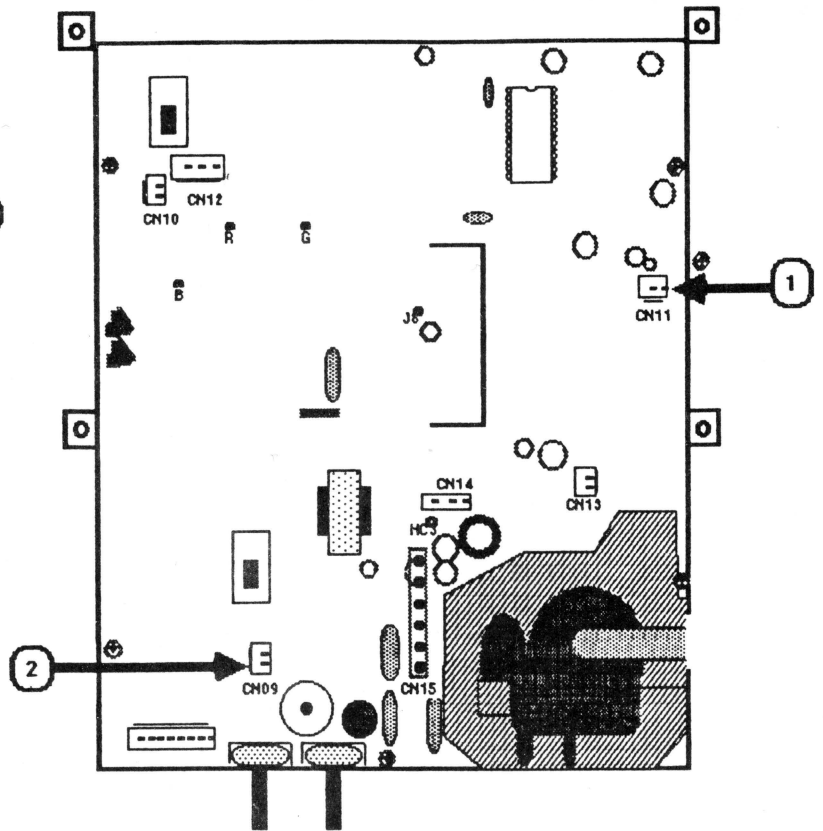

FIGURE 21
- b) CN11 (logic board) -- Figure 21, #1
- c) CN09 (logic board) -- Figure 21, #2